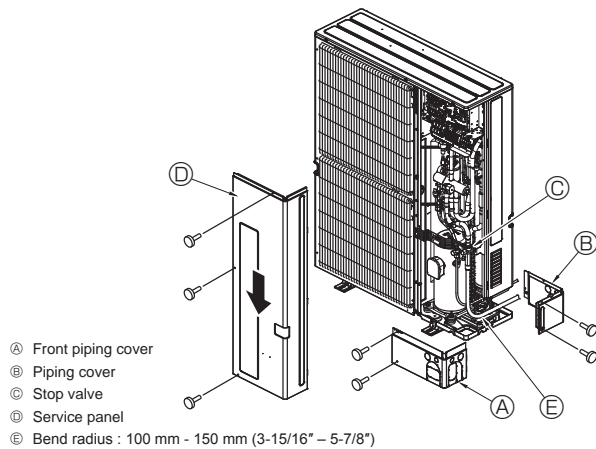

Fig. 4-5
4.4. Refrigerant piping (Fig. 4-5)